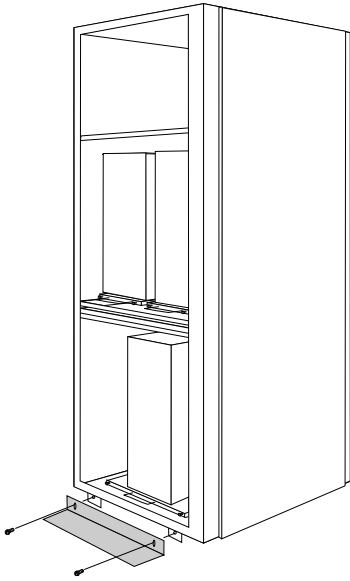

Figure 14. Installing the stabilizer bar
- f. Refer to Figure 14 and bolt the stabilizer bar to the front of the PC Server Expansion Rack using the 8-inch adjustable wrench. Make sure the bar firmly touches the floor and tighten the bolts securely.